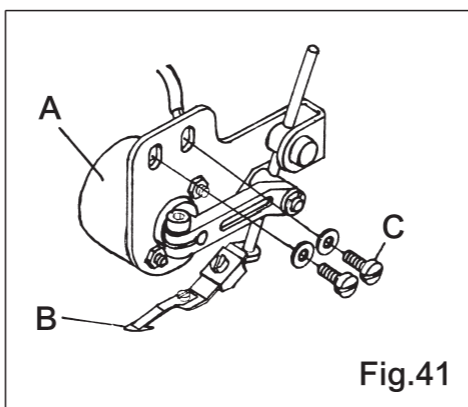

Fig.41
To loose the two screws (C) for adjusting the relative position of Top Wiper (A). (Fig.41)